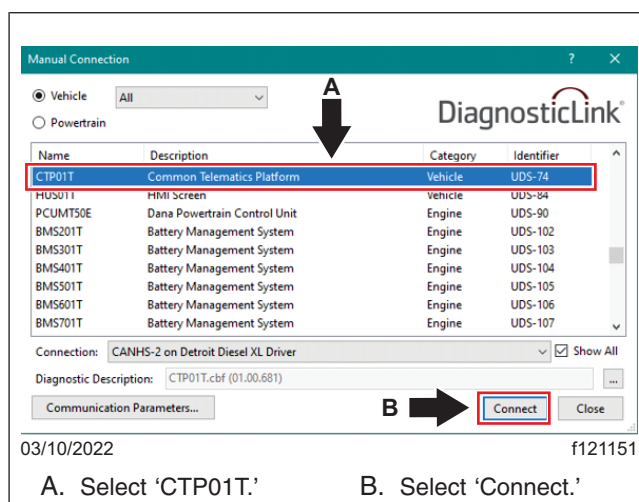
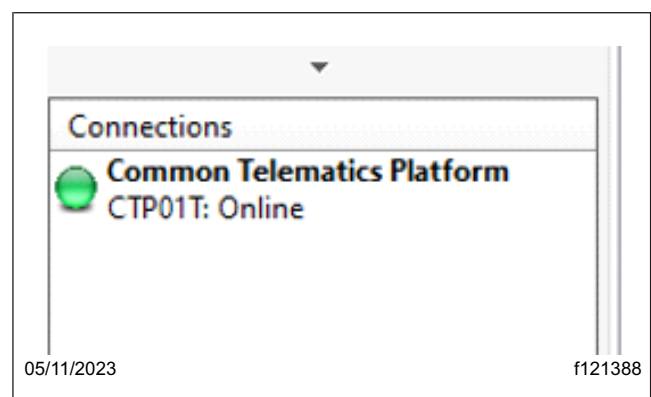

Fig. 23, Manual Connection Window
Fig. 24, CTP01T Connected
- In the 'Manual Connection' window that appears, select 'CTP01T,' then select the 'Connect' button. **See Fig. 23.** Wait until the CTP01T connection turns green, as shown in **Fig. 24.**